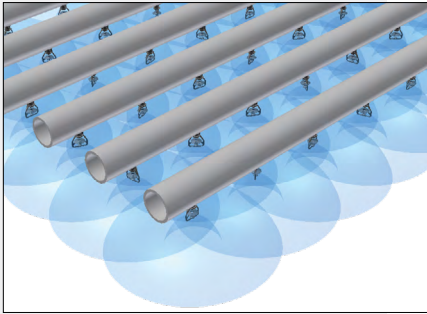

Figure 6. Nozzle Spray Pattern
- Start the recirculating pump. Make sure the fan motor is locked out and tagged out. Check to see if the nozzles are all spraying consistently and producing the spray pattern shown in Figure 6.